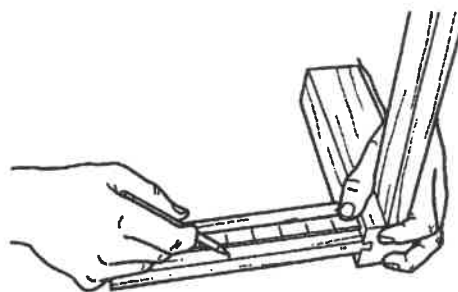

Fig. E-14
20. Determine how far out on the rails you want to cut sockets and place the brace. This is your preference. See Fig. E-14. Mark this location, and place an "X" on the inside of each rail (this will help you remember on which side to cut the sockets).